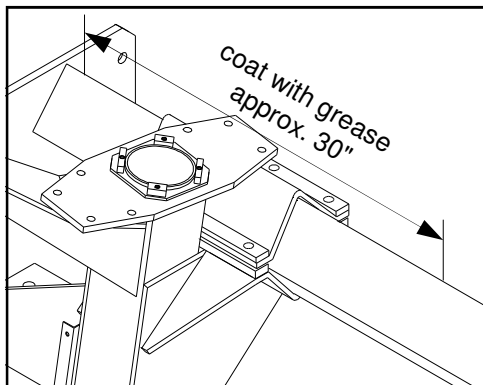

FIG 5.5
1. Make sure the nylon material on the tread adjustment brackets on both the front and rear legs have an adequately lubricated surface to slide on during adjustment (fig. 5.5).